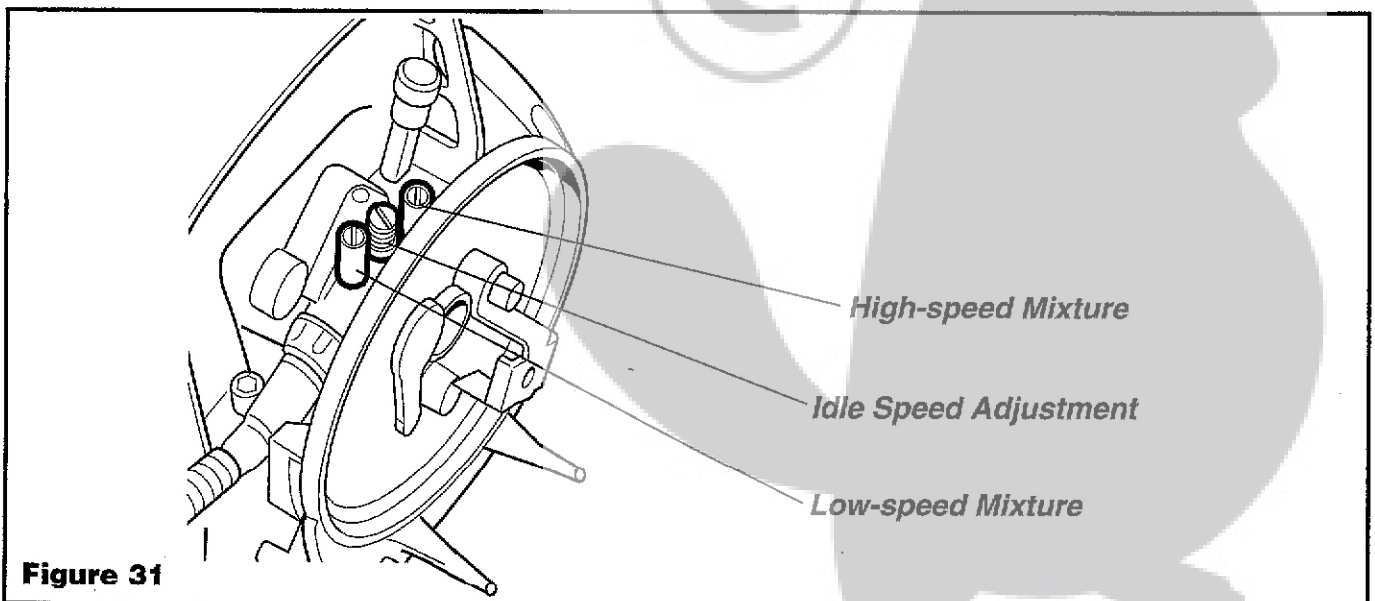

Figure 31
2. If the cutting attachment rotates while the engine is idling, turn the idle adjustment screw counter-clockwise until the cutting attachment stops rotating. See Figure 31.
The high-speed mixture screw must be adjusted so maximum engine speed does not exceed 11,000 min^{-1} without a load. See Figure 31.